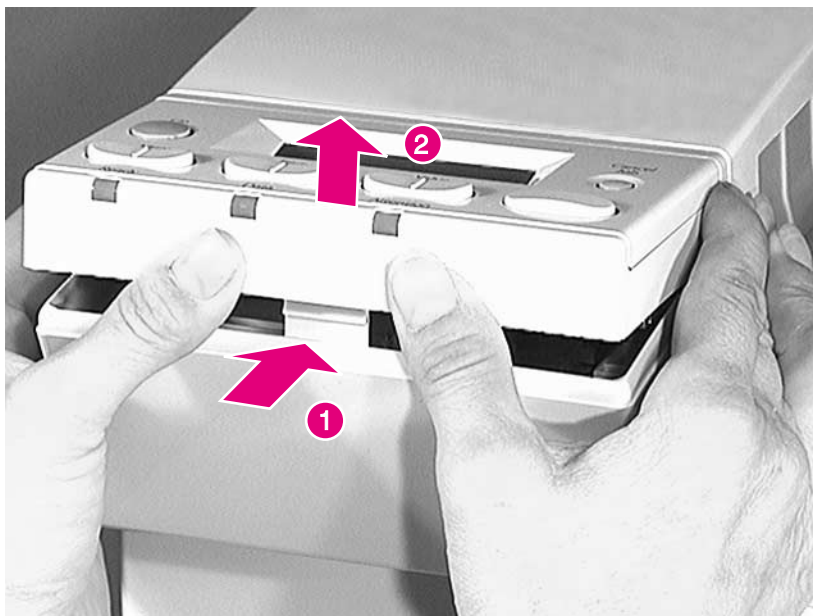
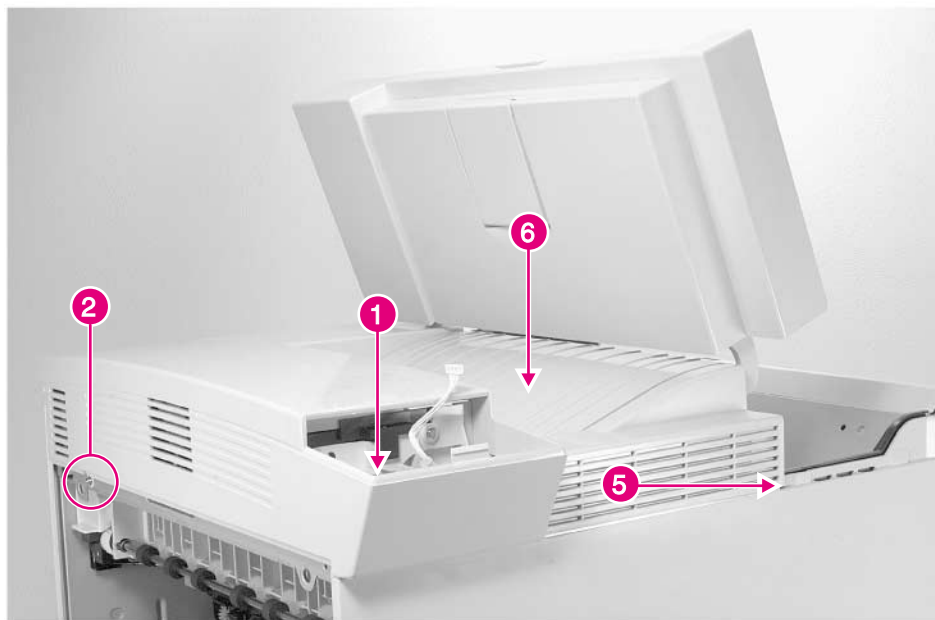

Figure 6-3 Control Panel (1 of 2)
Figure 6-10 Top Cover (1 of 2)
- 1 While pushing in on the center area (figure 6-3, callout), lift up on the forward edge of the control panel to release the plastic retaining tab.
- 1 Remove the Control Panel (see figure 6-3 on page 269), then remove 1 screw (figure 6-10, callout 1).
- 2 Open the Diverter Assembly access door, and remove 1 screw (figure 6-10, callout 2).
- 5 Lift (and hold) the top cover door up, and carefully pull out on the cover to release the retaining tab (figure 6-10, callout 5).
- 6 Hold the Face-down Bin (figure 6-10, callout 6) down while carefully and slowly lifting the top cover straight up until it clears the Face-down Bin Full sensor flag and the Delivery Unit.
- 1 Hold the top cover door up and the Face-down Bin (figure 6-10, callout 6) down while lowering the cover into position.
- Top Cover (see figure 6-10 on page 277)
- 2 Remove the top cover (see figure 6-10 on page 277).